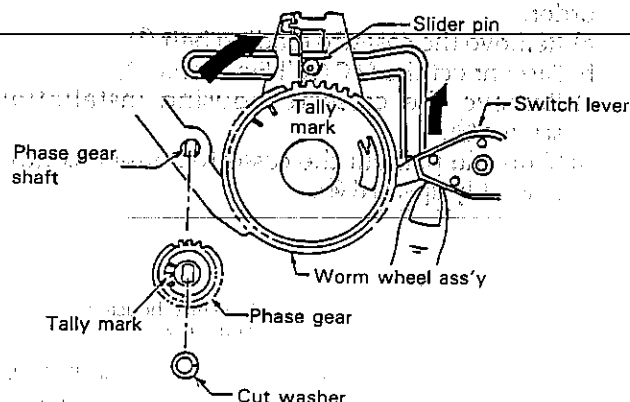
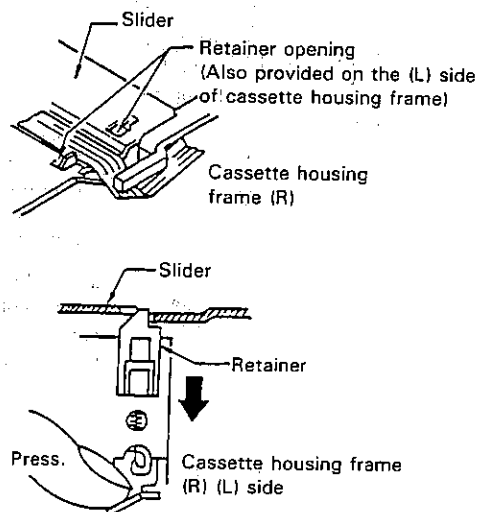

Figure 1-7.
Figure 1-8.
5. Place the slider pin just above the worm wheel (Figure 1-7). (The retainer of the slider is locked at two positions then. So unlock it as in the Figure 1-8.)
6. Pull out the worm wheel assembly toward you pressing the switch lever upward. (Figure 1-7)